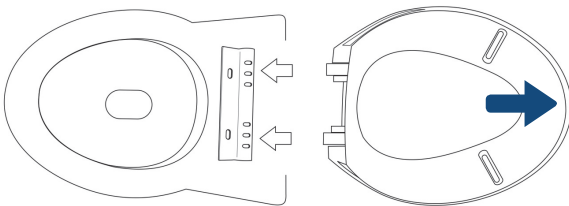

Figure 2
3. Remove existing toilet seat from toilet. Be sure to save the existing screws as they will be needed to attach the frame bracket and re-attach the seat. (Figure 2)